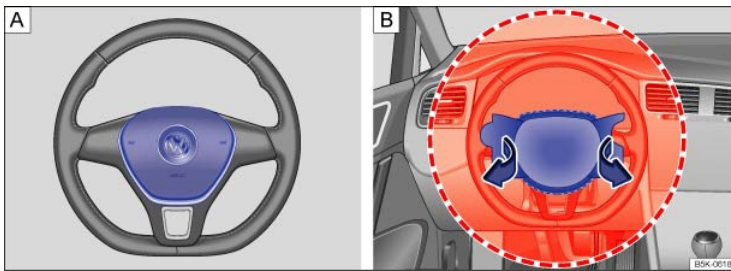
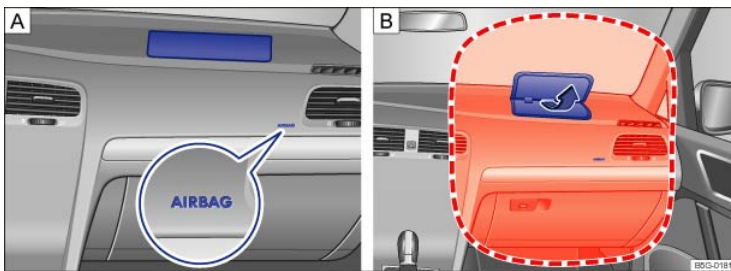

Fig. 37 Location and deployment zone of the driver front airbag.
Fig. 38 Location and deployment zone of the front passenger front airbag.
The vehicle is equipped with an Advanced Airbag System in compliance with the United States Federal Motor Vehicle Safety Standard (FMVSS) 208 or the Canada Motor Vehicle Safety Standard (CMVSS) 208 applicable at the time your vehicle was manufactured. The airbag for the driver is in the steering wheel hub ⇒ Fig. 37  and the airbag for the front passenger is in the instrument panel ⇒ Fig. 38 . The general location of the airbags is marked AIRBAG.
The areas marked in red (dotted lines) ⇒ Fig. 37  and ⇒ Fig. 38  indicate the airbag deployment zone. Never place or attach accessories or other objects (such as cup holders, telephone brackets, note pads, navigation systems, large, heavy or bulky objects) on the doors, on the windshield, over or near the area marked in red (dotted lines).
- Never place accessories or other objects (such as cup holders, telephone brackets, notepads, navigation systems, or things that are large, heavy, or bulky) on the doors or attach them to the doors; never place them over or near the area marked AIRBAG on the steering wheel, instrument panel, or seat backrests, or between those areas and someone in the vehicle ⇒ *Fig. 37* and ⇒ *Fig. 38*. Such objects could cause serious injury in a collision, especially if an airbag inflates.